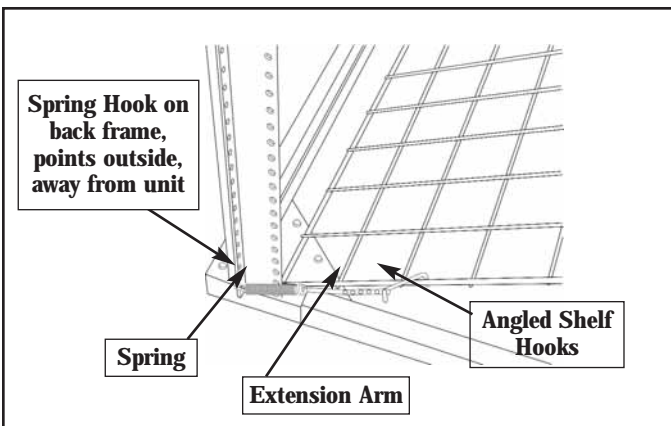

Figure 8. Shelf, Spring & Extension Arm Assembly.
- On each side of the shelf, connect the first hole of the extension arm holes to the angled shelf hook on the outside of the shelf (Figure 8). Be sure to use the same hole on each side so tension is even. For greater tension, use the second or third hole.